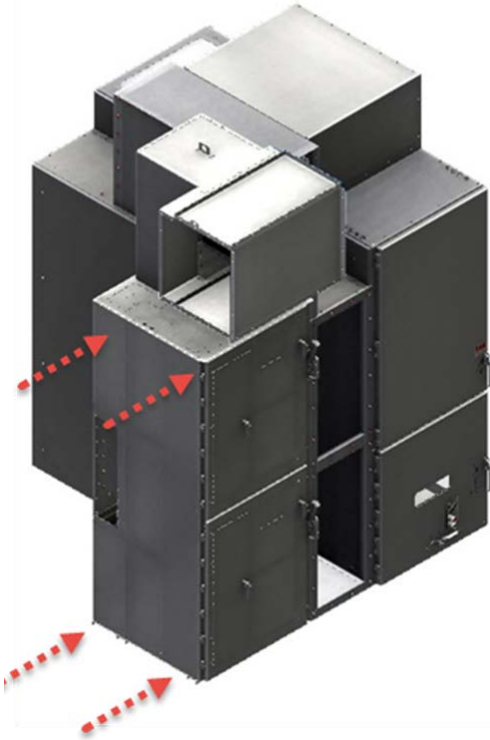

Figure 9: Align and move the MCC into position
4. Move the MCC into position next to the Transition Frame (Figure 9). Align the MCC to the front or the rear face of the transition frame. (depending on the configuration) Ensure the frame-to-frame holes line up and with minimal gap between the equipment.